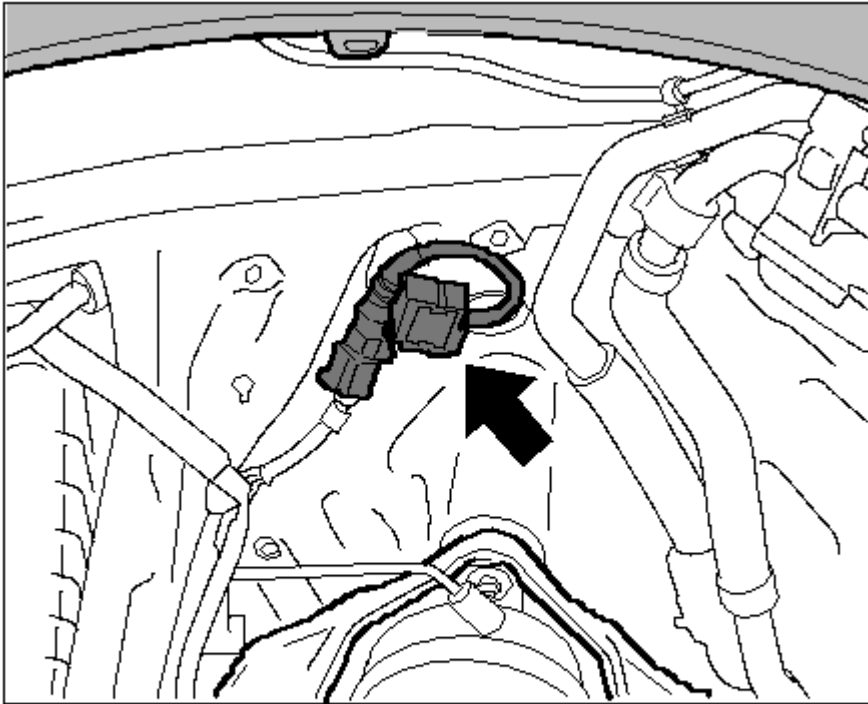

Fig. 109: Sensor for body at front
1. Insert sensor with holder in the correct position -**arrow**- and tighten the fastening screw. See **Fig. 109**.